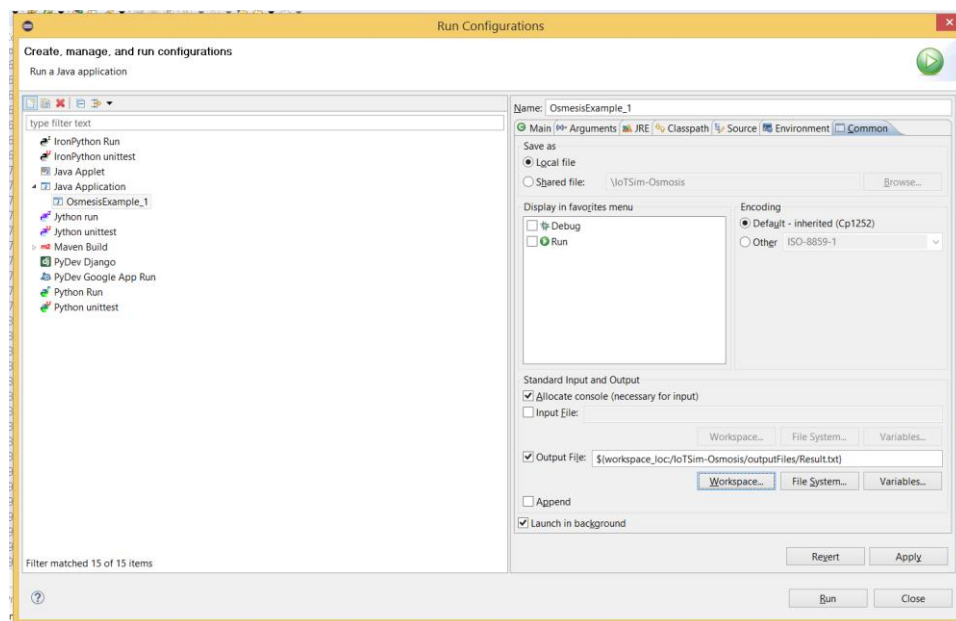

Figure 4.6
Step 2: Click on Common -> check mark Output File -> click workspace -> select IoTSim-Osmosis folder -> select outFiles folder -> select result.txt -> click Ok -> click Run (see Figure 4.6). This step will run the first example and store all the outputs on the result.txt file.